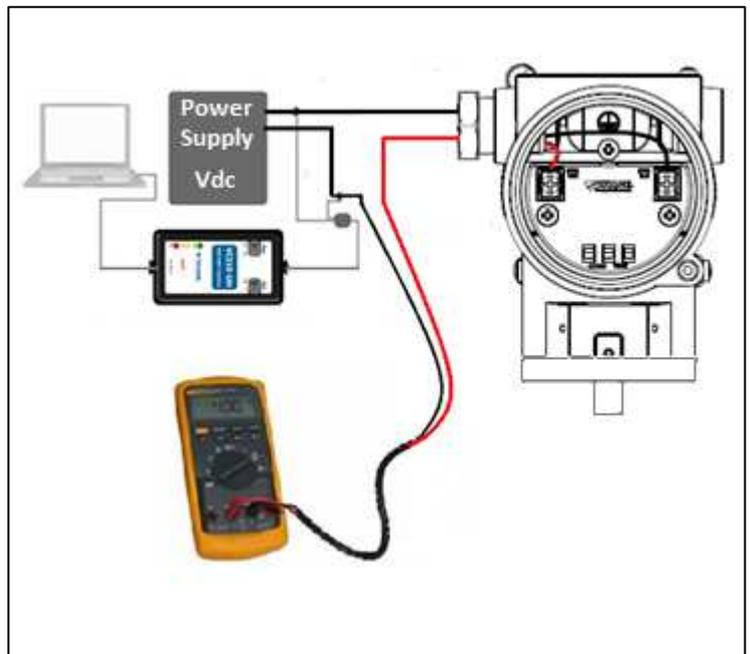

Figure 3.10 – Output current trim assembly.
Trim – Adjusts position sensor calibration (inferior and superior points), output current (4 mA and 20 mA) and temperature sensor. Figure 3.10 shows an ammeter connection with transmitter in order to execute output current trim. See more details on item 3.7.
After fixed current generation, user should connect an ammeter serially with the transmitter (see figure 3.10) in order to monitor real output current and set it on configurator via HART® commands, performing internal calibration to generate current according to user value. This process may be repeated as much as user wishes, until the correct value for output current is read on the ammeter for both trim values (4 mA e 20 mA).